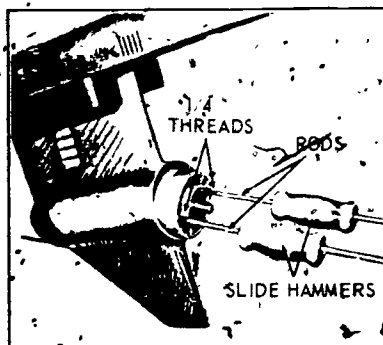

FIGURE 8
- Q. Remove oil pump from gearcase using two slide hammers and 1/4" all thread slide hammer rods. (Figure 8)